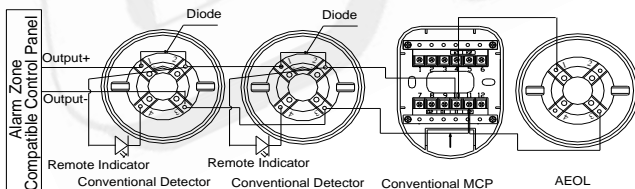

Fig. 3
1) When used as the detector base, the AEOL has a conventional detector on it. The system connection is shown in Fig. 3.